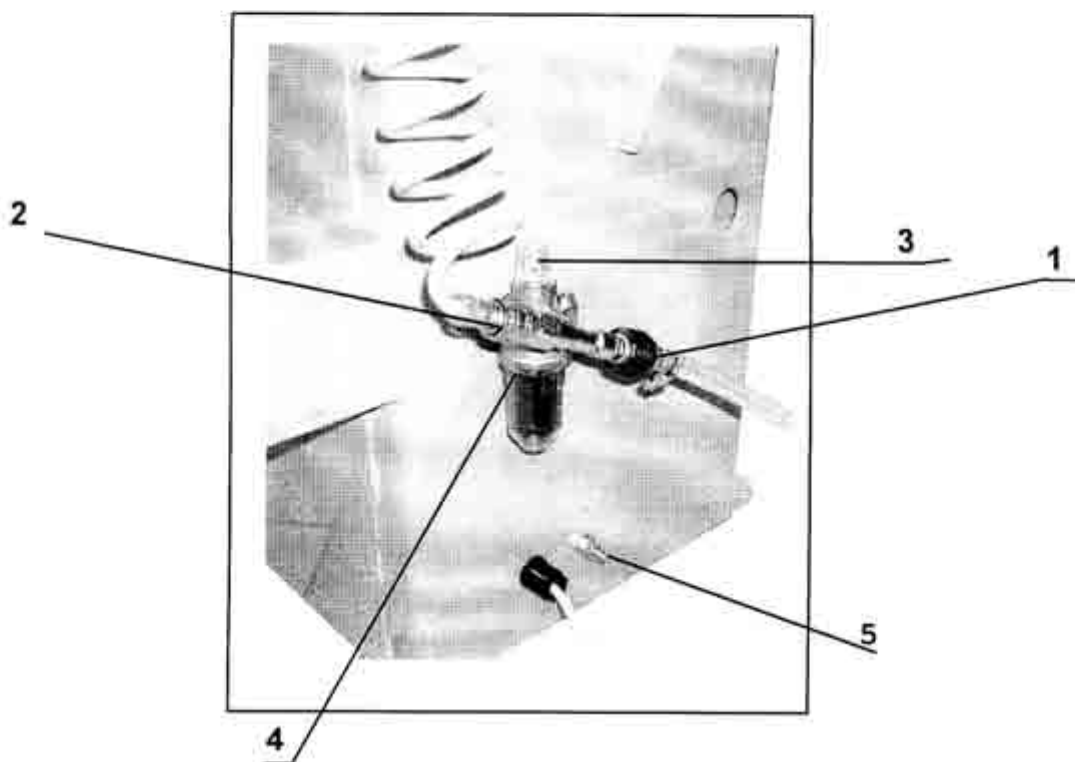

Fig. 1. Connections
3. Connect compressed air hose to supply coupling (item 1 fig 1). Use pneumatic hose min. 1 MPa working pressure, 8 mm inside diameter. Check whether oiler 5 is filled with oil.
Top - up compressed air lubricator with oil periodically (item 5 fig 1). In lubricator lid two screws can be seen; the smaller one is used for adjusting lubrication rate the larger one closes oil filler, through which oil may be injected with a syringe. The transparent reservoir may also be carefully unscrewed from the lubricator body and filled directly with oil. Use mineral oils, free of water and acids, 2 to 4 Engler viscosity (at 50 degrees cent.). HL 32 hydraulic oil is recommended. Air filter - water separator is maintenance - free - it is self - cleaning.